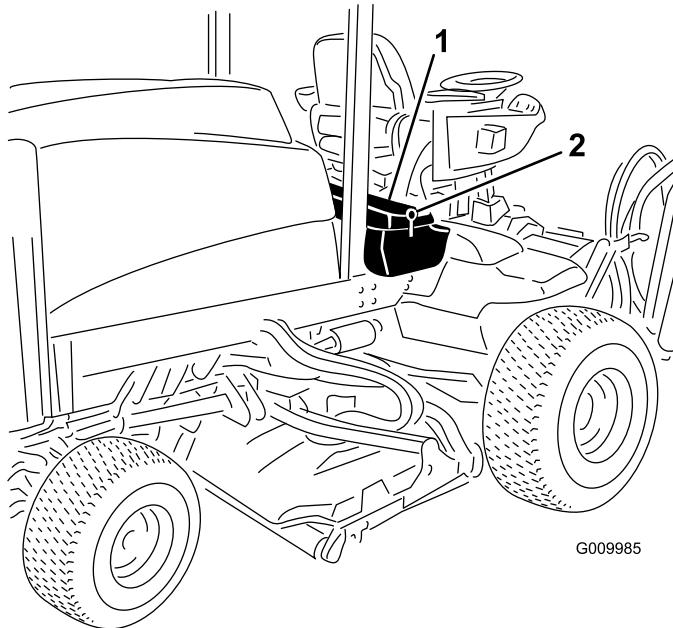

Figure 62
1. Loosen the latch for the cover of the right storage box and raise the cover (Figure 62).
1. Loosen the latch for the cover of the right storage box and raise the cover (Figure 62) to expose the fuse block (Figure 63).
3. Close the cover of the right storage box and secure the cover with the latch (Figure 62).